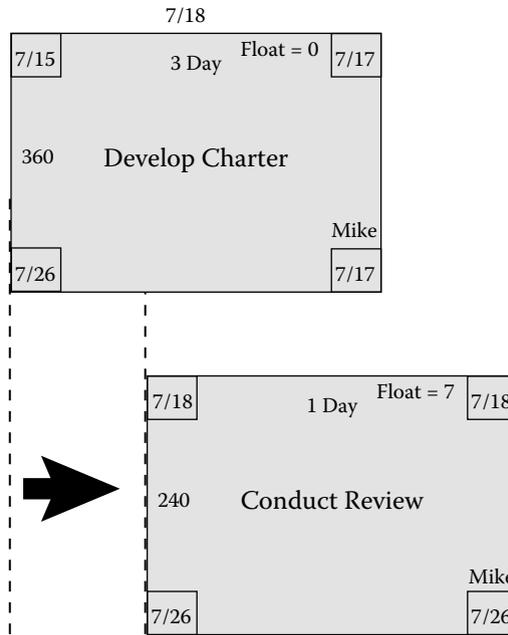

Figure 17.3 Rescheduling Mike's activities.
The application of this logical process would result in a rescheduling of Mike’s activities (Figure 17.3). Now activity 240 is rescheduled to July 18 and it still has a float of seven (7) days. This is a simple example but it does demonstrate the process you must perform.